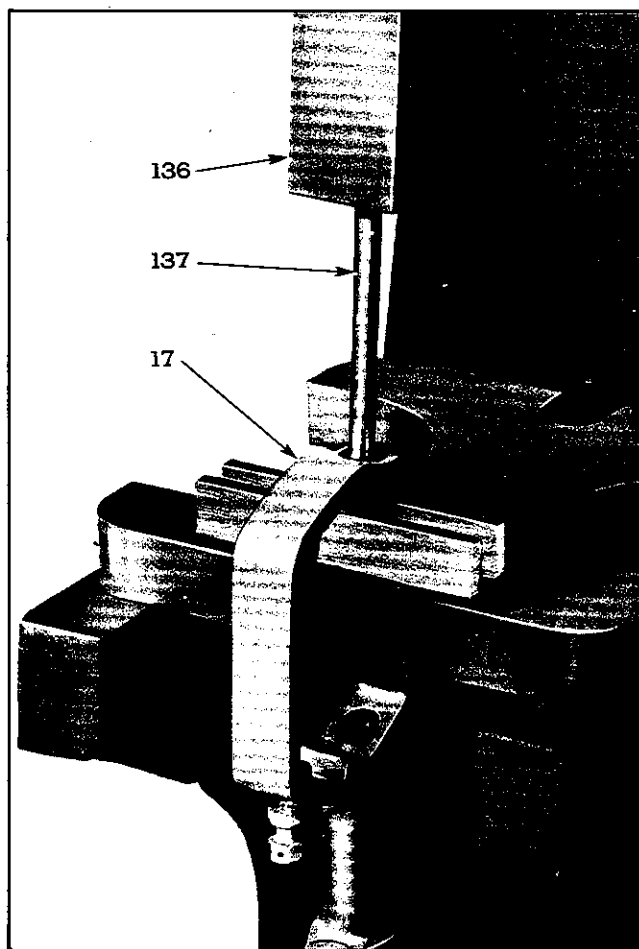

Fig. 37—Removing Fuel Rod Bushing from Sub-Cap.
- (a) Unscrew shut-down knob (15) and lock nut (16) from fuel rod (13). Remove fuel rod spacer (20).
- (b) Pull shut-down rod from sub-cap through neck where sub-cap bolts to cylinder head, thus separating rod from fuel rod collar (22), short spring (24), collar (14), and long spring (23).
- (c) Remove fuel rod seal (59) from counter bore at outer face of sub-cap.
- (d) If bushing is worn sufficiently to need replacing, support sub-cap in arbor press as shown in Fig. 37 and press bushing (21) from place, using a suitable $\frac{5}{16}$ " diameter bar on outer end of bushing.